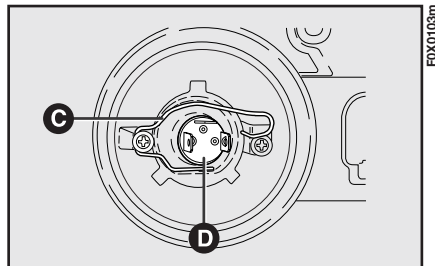

fig. 122
- release fixing spring C-fig. 122 then remove bulb D;